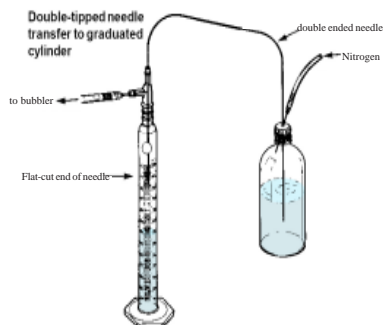

Fig. 3B Double-tipped needle transfer to graduated cylinder
- For an exact measured transfer, convey from the Sure/Seal bottle to a dry nitrogen flushed graduated cylinder fitted with a double-inlet adapter (**Fig. 3B**). Transfer the desired quantity and then remove the needle from the Sure/Seal bottle and insert it through the septum on the reaction apparatus. Apply nitrogen pressure as before and the measured quantity of reagent is added to the reaction flask.